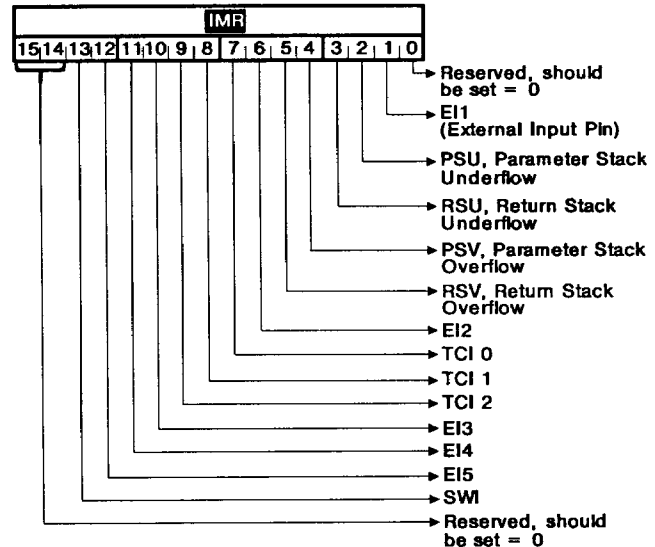

FIGURE 4. INTERRUPT MASK REGISTER ( **IMR** )
**IMR**: By setting the appropriate bit, the **Interrupt Mask Register** allows each interrupt, except the Non-Maskable Interrupt, to be masked. See Figure 4 for bit assignments for this register.